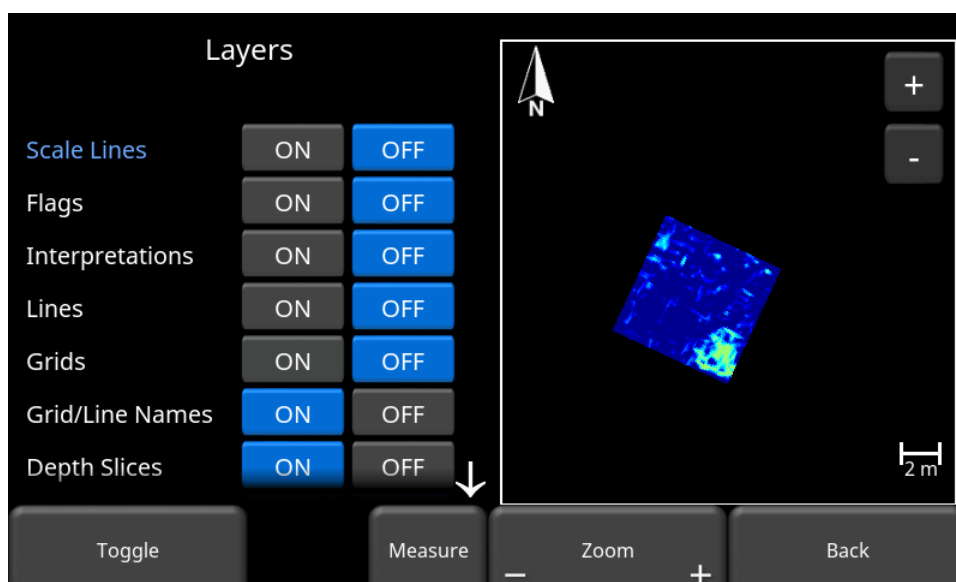

Figure 9-8: Grid lines turned off
- **Grids** – turning this off will remove all grids displayed (red grid turned off in Figure 9-8). It will also remove the grid name.
- **Depth Slices** – when set to ON, the depth slice will be displayed in the MapView window (Figure 9-8). The depth slice can be set by exiting the Options menu. Press OFF to hide the current position.